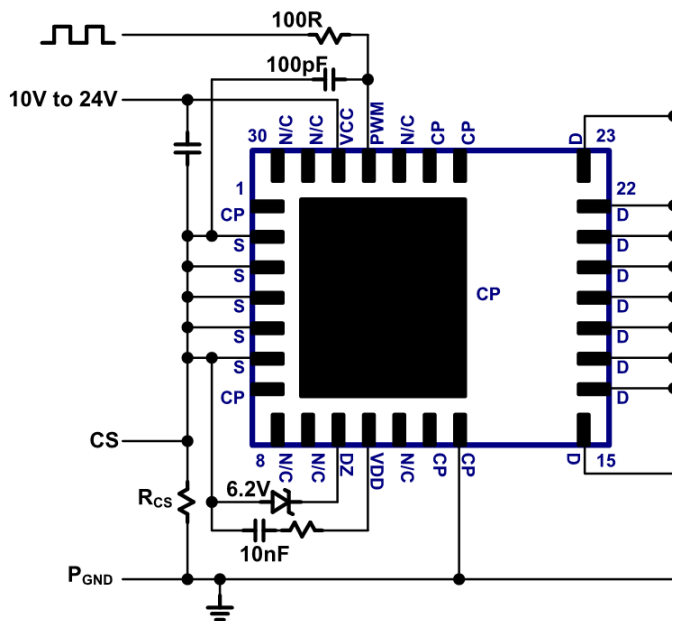

Fig. 24. Current sensing circuit
For many applications it is necessary to sense the cycle-by-cycle current flowing through the power FET. To sense the current flowing through the GaNFast power IC, a standard current-sensing resistor can be placed between the source and power ground (Fig. 24). In this configuration, all of the components around the GaNFast power IC (V_{CC} , V_{DD} , D_z , etc.) should be grounded with a single connection at the source. Also, an additional RC filter can be inserted between the PWM signal and the PWM pin (100 Ω , 100 pF typical). This filter is necessary to prevent false triggering due to high-frequency voltage spikes occurring at the source node due to external parasitic inductance from the source PCB trace or the current-sensing resistor itself. For increased cooling pad PCB copper area it may be desired to connect CP to the circuit PGND. Fig. 24 shows the components around the GaNFast power IC grounded at the source pins (S and CP connected to PGND). This allows for all CP pins and CP pad to be connected to a large and continuous thermal copper area without being obstructed by the current sensing resistor. CP must be connected to source (S) or circuit PGND! Do not leave CP floating!